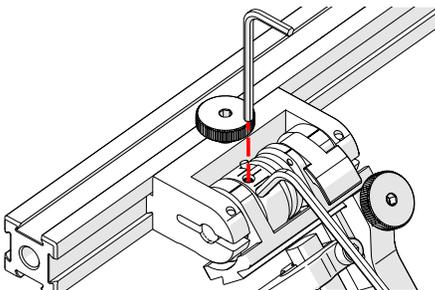

Fig. 161 - Insert hex tools
4. Place the 2 mm hex wrench into the force adjustment screw (Fig. 161).